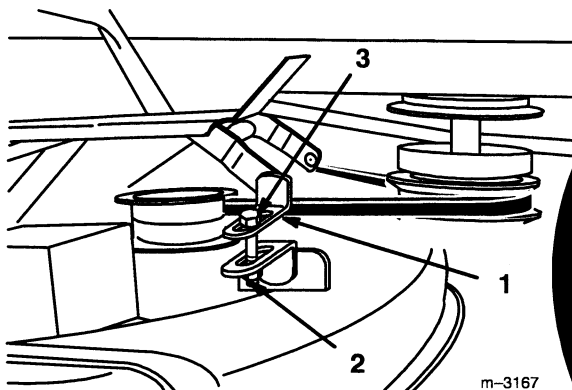

Figure 11
- To adjust front-to rear blade level loosen jam nut on both front adjustable links. (Fig. 11).
- Rotate the bolt on each front adjustable link to change front-to rear blade level (Fig. 11).